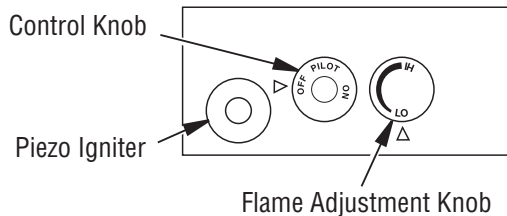

Figure 18 - Setting Control Knobs
4. Press in and turn control knob clockwise  to the OFF position (see **Figure 18, Page 13**).
5. Wait five (5) minutes to clear out any gas. If you then smell gas, STOP! Follow "B" in the safety information in column 1. If you don't smell gas, go on the next step.
6. Press in and turn control knob counterclockwise  to the PILOT position. Press in control knob for five (5) seconds (see **Figure 18, Page 13**).